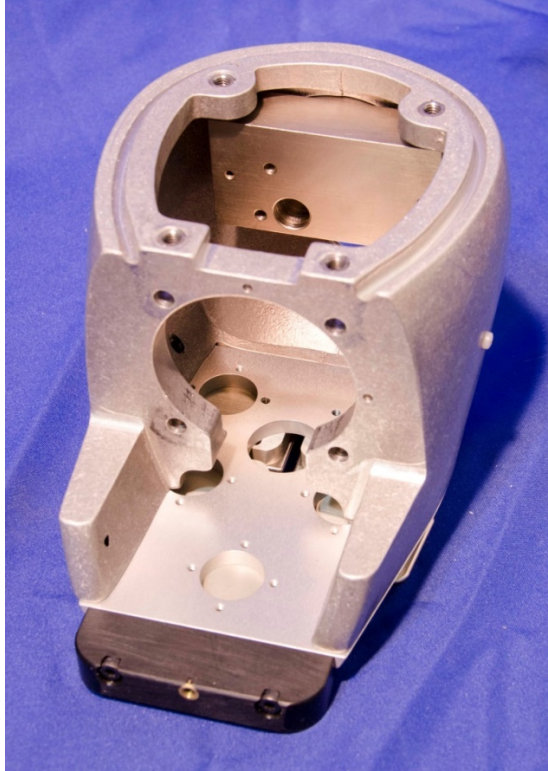

Figure 3-14. Head ballast installed
3.2.2.10 Position the Head Ballast (472-1120) over the Head Biaxial Accelerometer Assembly inside the skull. Install the ballast using four M4 x 0.7 x 16 FHCS. Insert the screws through the exterior top of the skull (Figure 3-13 and Figure 3-14).